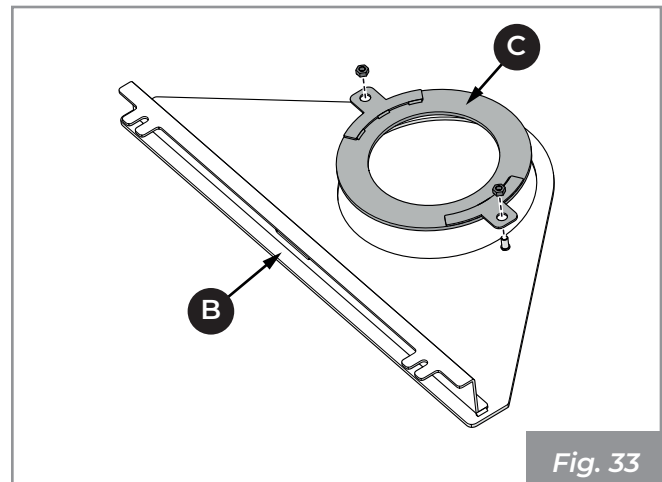

Fig. 33
- Rotate the surface **(B)** and remove the support **(C)** (Fig. 33).